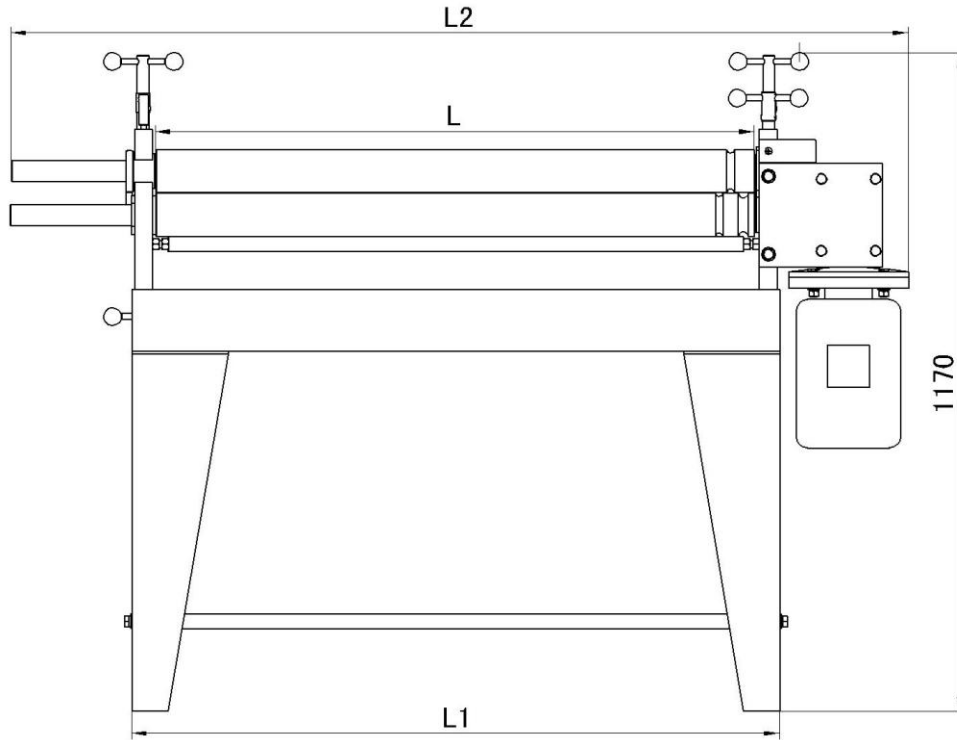

Figure 1. MAIN SIDE DIAGRAM
*Note: a. L, L1, L2, as the figure 1.*